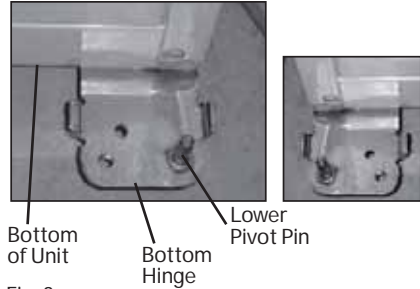
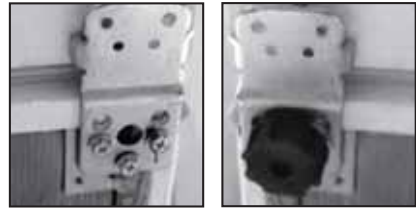

Fig. 3
Fig. 4
1. Remove the lower pivot pin from the lower hinge by turning counter clockwise. Move the pin to the opposite hole and tighten. (see Fig. 3 and Fig. 4)
4. Loosen the screws holding the bottom hinge and remove it. (see Fig. 4)